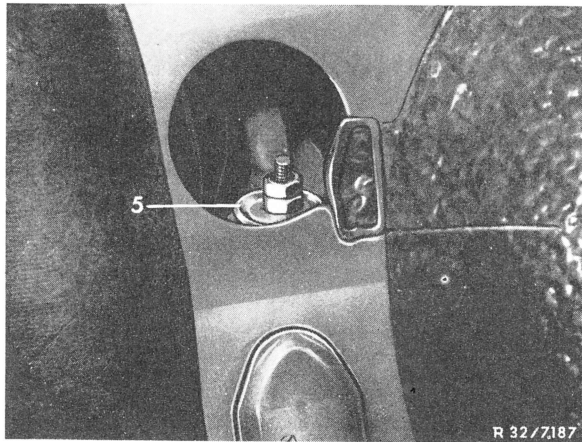

Fig. 2
- 3 Unscrew hexagonal nuts on the upper suspension (5) and remove rubber ring (Figs. 2 and 6).